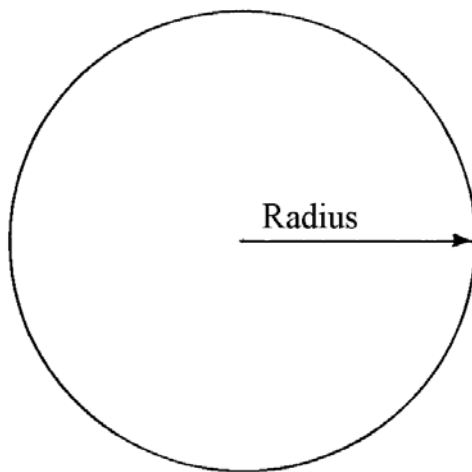

Fig. 3
15. Using a compass and a ruler, construct a **HEXAGON** within the circle shown in figure 3.